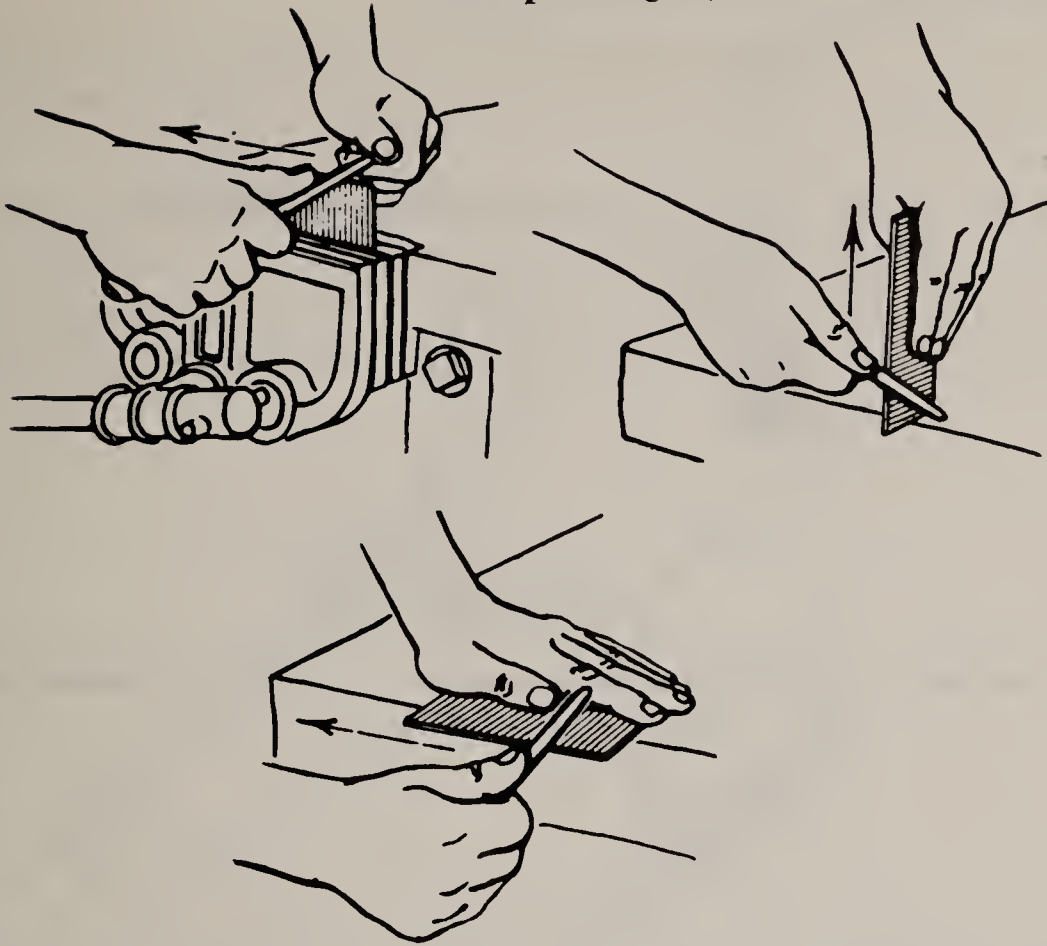

Fig. 17. Method used to turn the edge with a few strokes of the burnisher. The scraper may be held in any one of the three positions shown.
5. Turn the edge with a few strokes of the burnisher. The scraper can be held in a vise or as shown in Fig. 17.